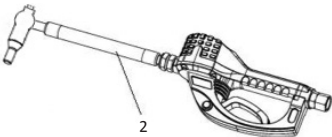

FIG. 3
- 1. Thread extension tube fitting (2) into meter outlet with at least three full turns. (FIG. 3). Do not use a twist/lock or manual shut-off nozzle. You must use an automatic nozzle on the meter or the meter could be damaged.